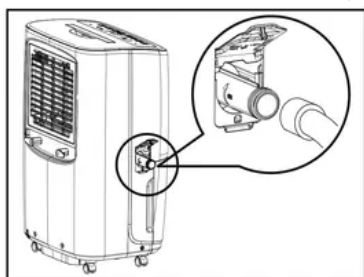

fig. 7
- Screw the garden hose onto the threaded portion of the drainage adapter. (fig.7)